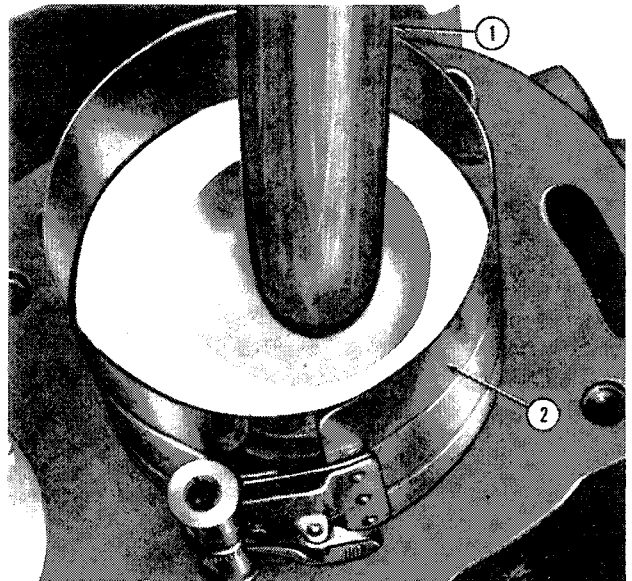

Figure 53
2. Turn the crankshaft to position the No. 1 crankpin at the bottom of the stroke. Oil the piston, rings, cylinder bore and bearing liners. Use a ring compressor to install the piston into the cylinder, Figure 53. Be sure the notch on the top of the piston is towards the front of the engine.